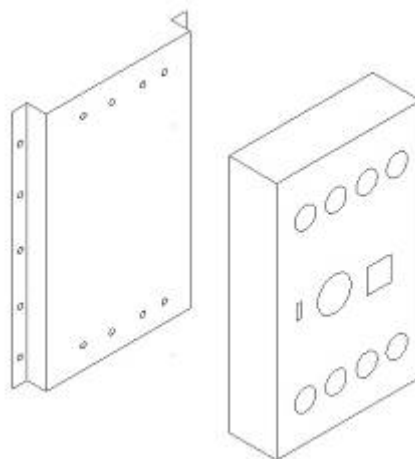

Fig. 3.28
1)Install the control box into to wall panel near the generator shown in Fig.3.28,and install the installation panel onto the wall with nail,then install the control box on to the panel.